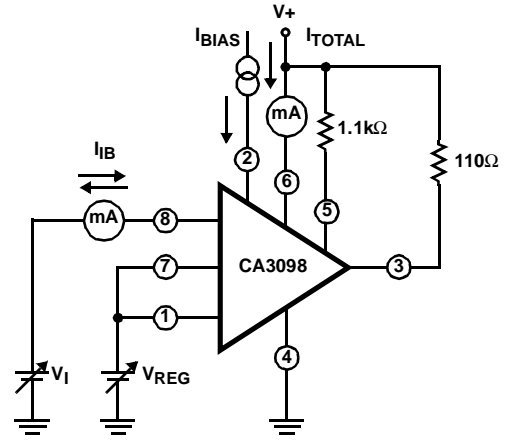

FIGURE 3. TOTAL SUPPLY CURRENT, AND INPUT BIAS CURRENT TEST CIRCUIT
Input Bias Current (Figures 3, 15)	I_{IB}
- For definition of V_{REG} see Figure 3.
- Continuous (DC) output current must be limited to $\leq 40\text{mA}$. For 100mA output current, the duty cycle must be $\leq 40\%$.
NOTE: See Figure 3 for definition of V_{REG}